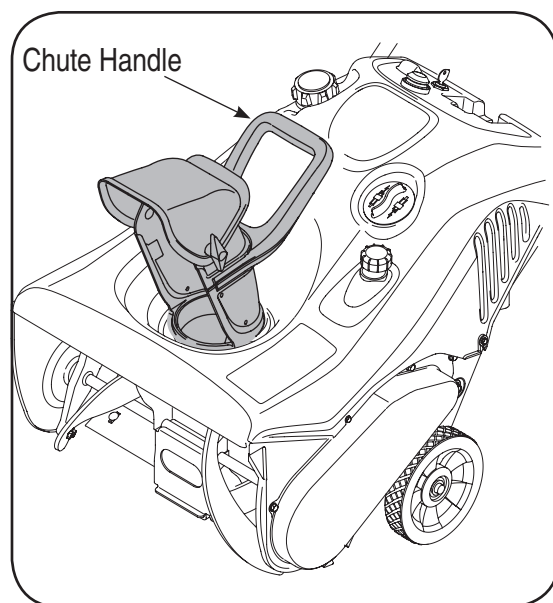

Figure 3
4. Resecure with the hardware just removed. If installed correctly, your snow thrower should look like Figure 3.